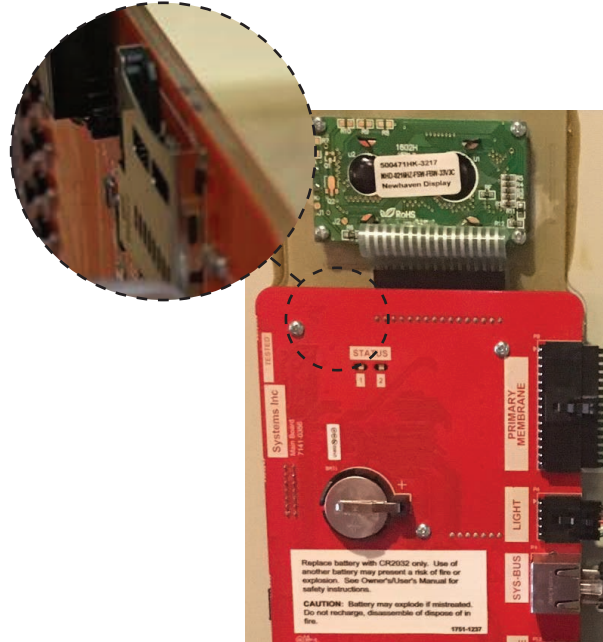

Figure 3
5. Insert the Micro SD card into the iDock main board (see detail on Figure 3).